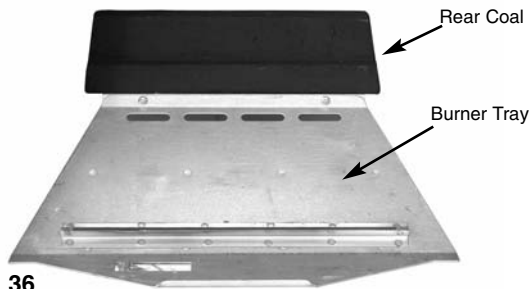

Fig. 36
1. Place the rear coal on the rear coal retainer ledge in a central position, ensuring the step portion is facing the front (Fig. 36).